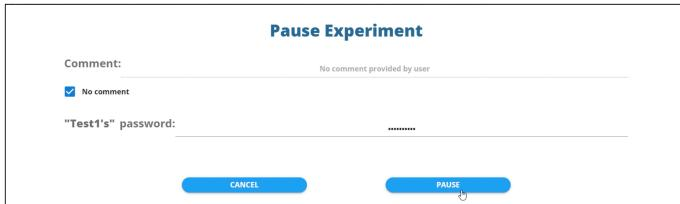
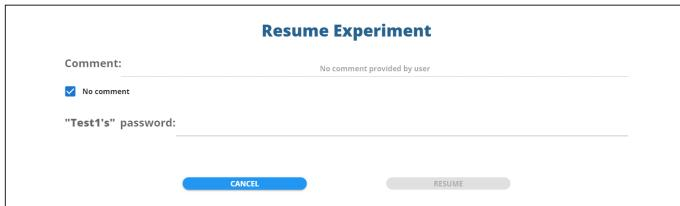

Fig. 88—To pause an experiment, you need to enter a comment and your password.
Fig. 89—To resume an experiment, you need to enter a comment and your password.
- If you pause the experiment (Fig. 88), it finishes the data collection on the active column and lifts the electrode array out of the well plate. Continue the data acquisition run by pressing the *Resume* button. You will again be prompted to enter a comment and your password (Fig. 89).